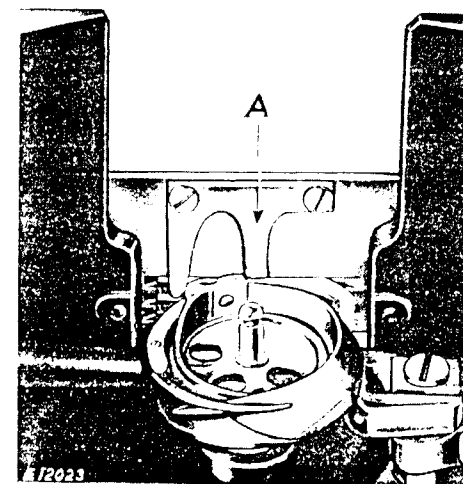
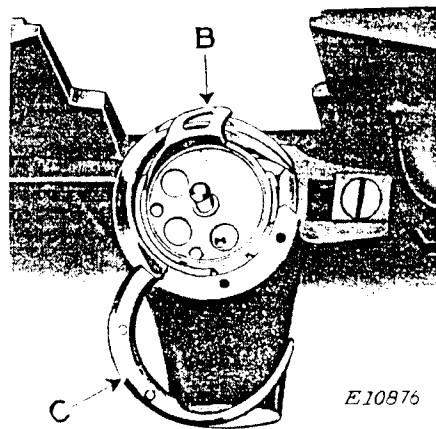

Fig. 20. Bobbin Case Base Correctly Engaged with Bobbin Case Base Stop Underneath Throat Plate
Fig. 21. Hook Gib Open for Removal of Bobbin Case Base
When returning the throat plate to its position be sure to have the bobbin case base stop (A, Fig. 20) on the underside of the throat plate engage the position finger (B, Fig. 21) on the bobbin case base, as shown in Fig. 20.
To remove the bobbin case base, remove the bed slide, throat plate and bobbin case. Take out the three hook gib screws, remove the hook gib (C, Fig. 21) and remove the bobbin case base (B, Fig. 21).
After replacing the bobbin case base replace the hook gib (C) and fasten it with the three screws. When replacing the throat plate, be sure to have the position finger (B, Fig. 21) on the bobbin case base engage the bobbin case base stop (A, Fig. 20) on the underside of the throat plate.